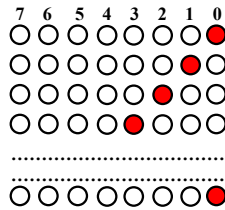

Figure 5.26: 'Moving' LEDs.
In this project eight LEDs are connected to GPIO ports PC0 to PC7 of the Nucleo-L476RG board (see Figure 5.1 and Figure 5.2) where PC0 is the least significant bit and PC7 is the most significant bit. The LEDs turn ON/OFF in a moving manner where only one LED is ON at any given time as shown in Figure 5.26. A 250-ms delay is inserted between each output.
- Drag and drop the binary file **MovingLEDs.bin** in subdirectory **MovingLEDs\Release** of the working directory to device **NODE\_L476RG**. You should see the LEDs flashing one after the other as shown in Figure 5.26.